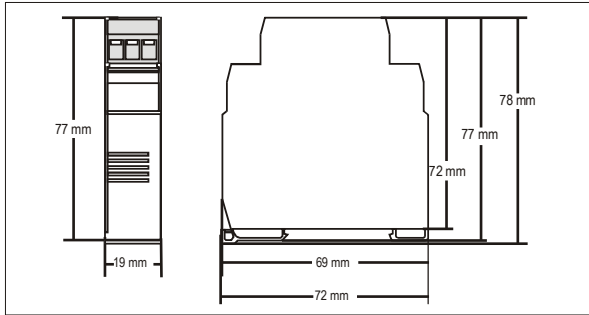

Figure 4 – ATxRail dimensions
The ATxRail transmitter is intended for DIN rail mounting. Its drawing is presented in figure 4.
**Housing:** ABS plastic. Dimensions: Refer to figure 4.